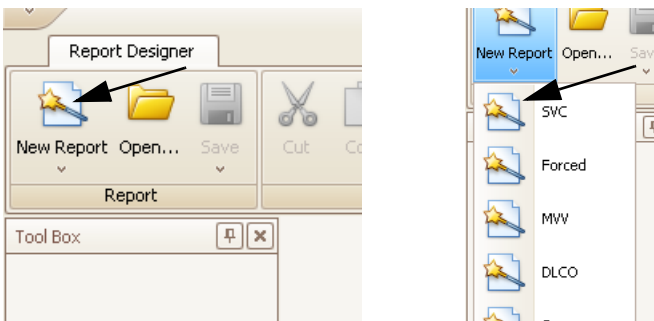

Fig. 10-3 New Report button (left), test selection (right)
- On the Report Designer tab, select **New Report** (Fig. 10-3 left).
- Select the test to which you want to add the logo (Fig. 10-3 right).